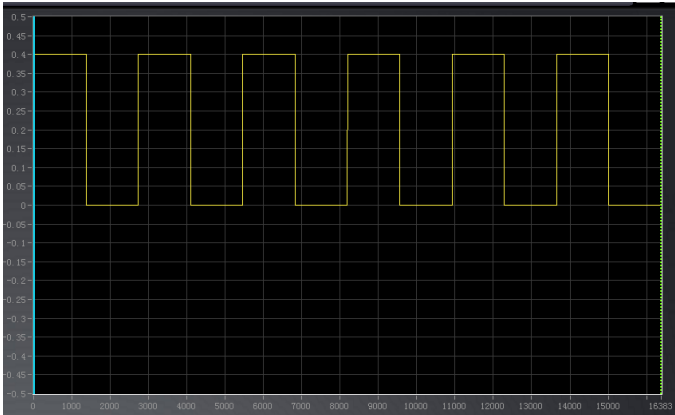
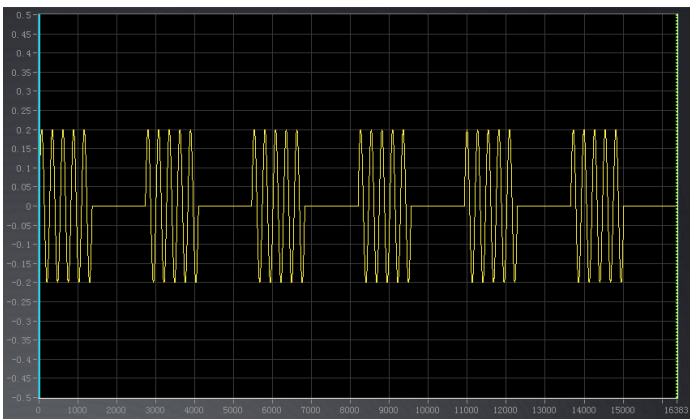

Figure 12: Pulse train with “1” and “0” (digital signal)
Figure 14: ASK modulation (digital signal \* carrier)
ASK is also a digital modulation form used in e.g. keyless entry or radio beacon in navigation. In simplest form, the characters one “1” and “0” of digital signal will be multiplied with a carrier frequency (*see figure 12 to figure 14*). On/Off Keying is used in keyless entry systems using ASK modulation.
- ASK modulation is 100% (*see figure 14*)